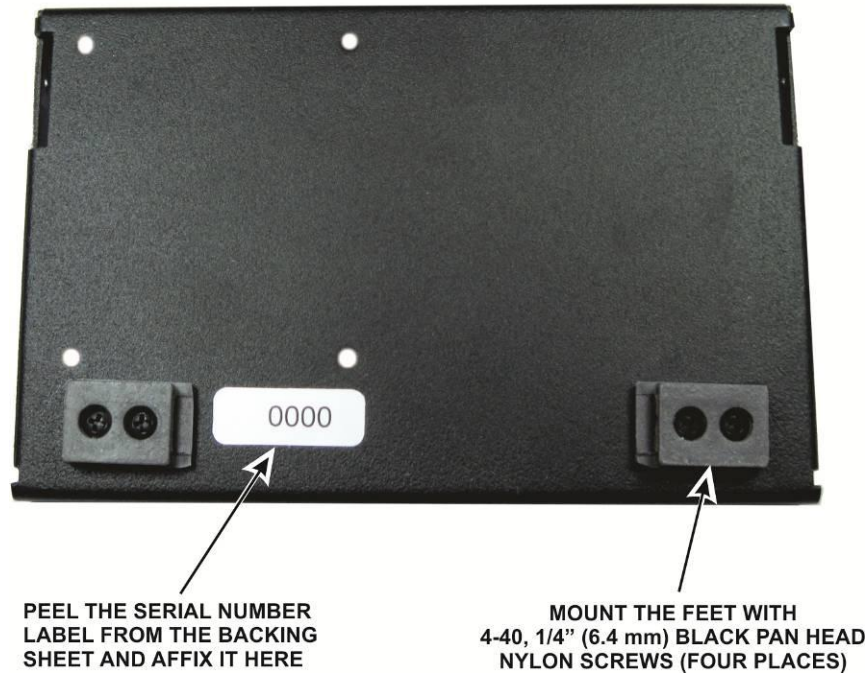

Figure 45. Installing Fixed Feet and Serial Number on the Rear panel.
□ Install the remaining two feet on the rear panel as shown in Figure 45. If the threaded holes have paint in them, clear the paint by running one of the 4-40 thumb screws through the holes first. Note that the remaining four holes are for future use. Peel the serial number off of the backing paper and affix it as shown. Some builders prefer to attach the serial number as the very last step of assembly. There is no reason it must be attached now, but many builders find it easier to get the label on straight when the cover can be laid flat and stable on the work table.